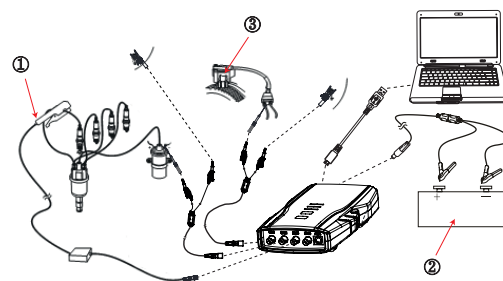

Fig. 50: Equipment connection
1. Connect equipment according to Fig.50, switch on power supply.